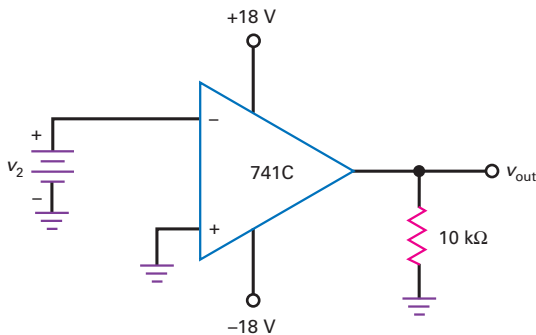

Figure 35-32
- 35.1 Assume that negative saturation occurs at 1 V less than the supply voltage with an 741C. How much inverting input voltage does it take to drive the op amp of Fig. 35-32 into negative saturation?